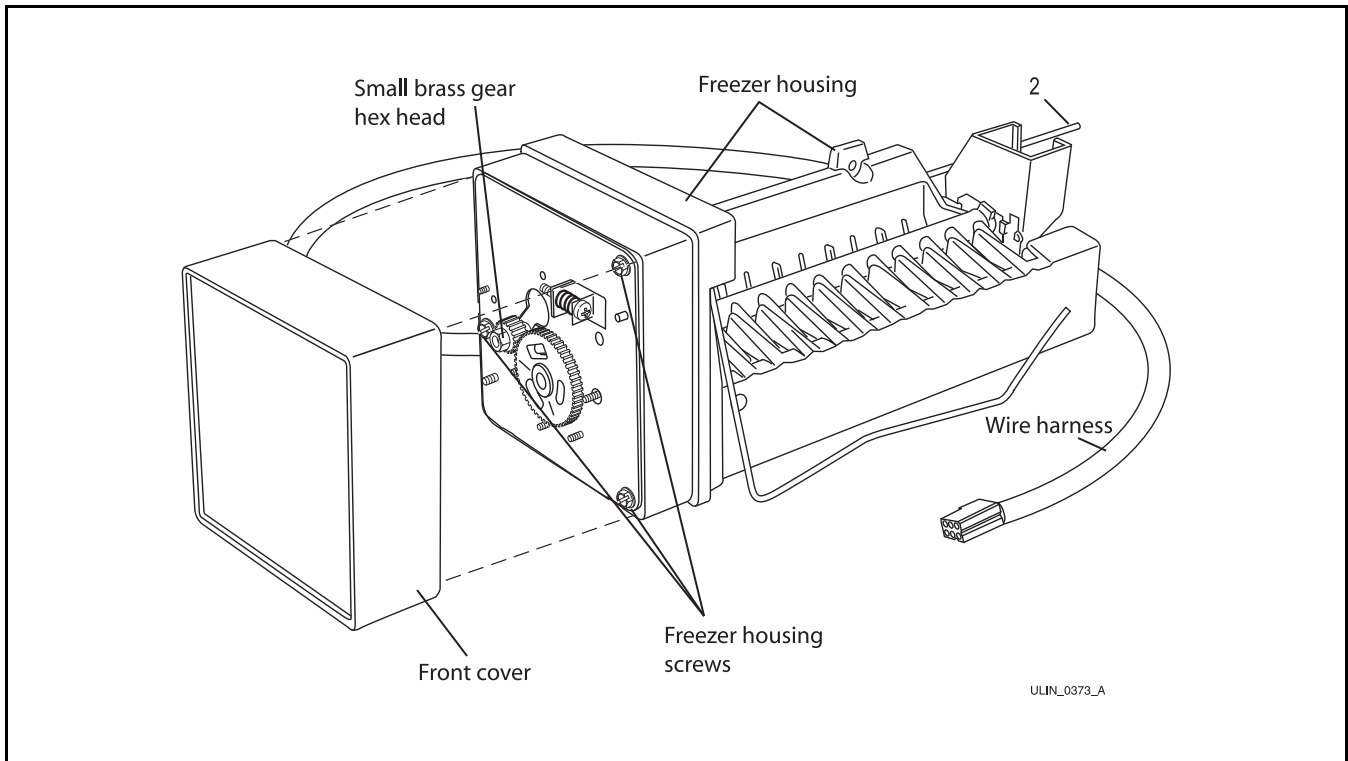

Figure 60
2. Disconnect ice maker wire harness at plug **(Figure 60)**.